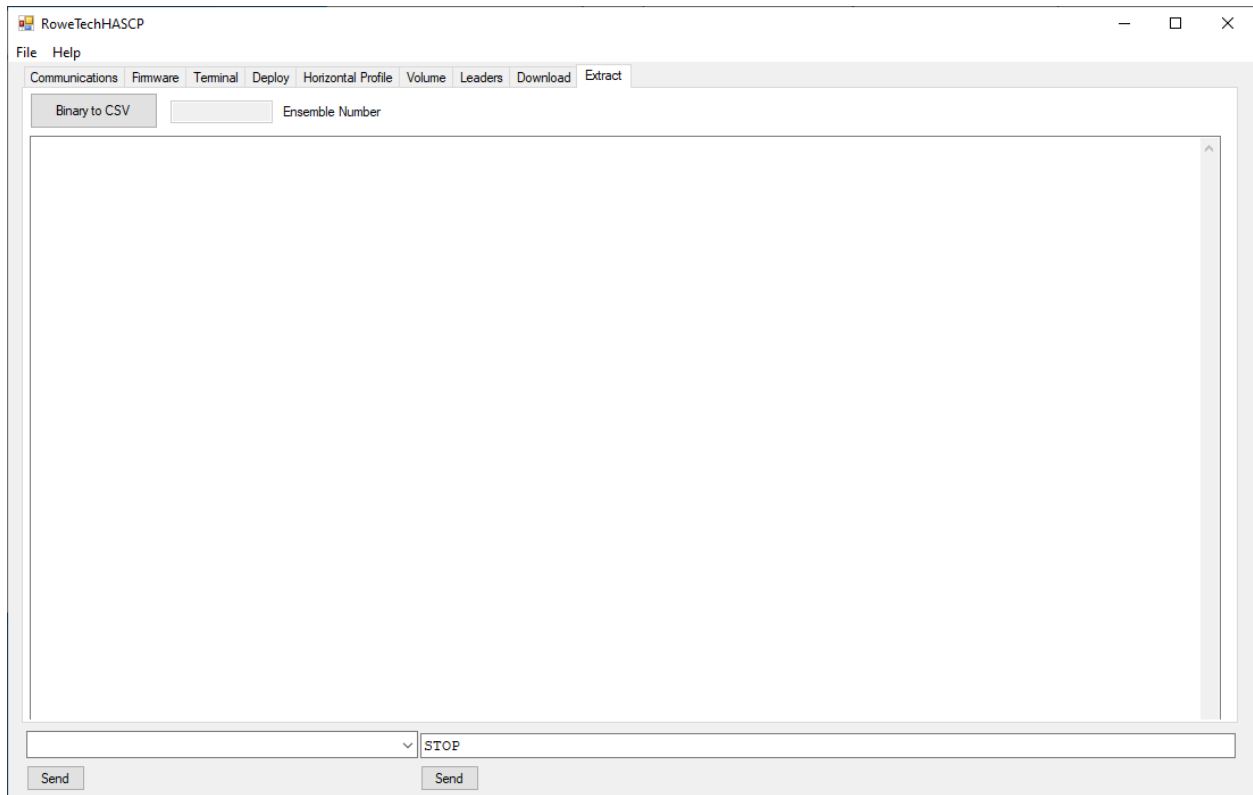

Figure 14. Extract tab in the RTI HASCP software
- a. Click the Extract TAB near the top right-center of the software window. Refer to Figure 14.